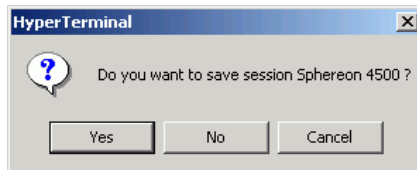

Figure 3-29 HyperTerminal Dialog Box
- m. Click *Yes*. A second *HyperTerminal* dialog box displays (Figure 3-29).